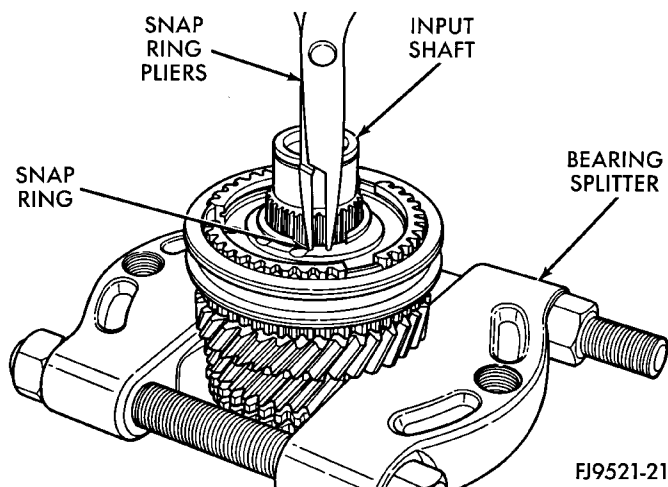

Fig. 96 5th Gear Synchronizer Snap Ring Installation
(12) Install 5th gear synchronizer snap ring (Fig. 96).